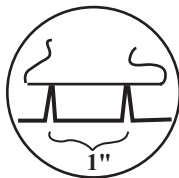

Figure 8
3. Clip to the reinforcement stitching 1/2 in. on either side of the center mark (Figure 8). Place a drop of seam sealant on edges of each snip. Let dry.